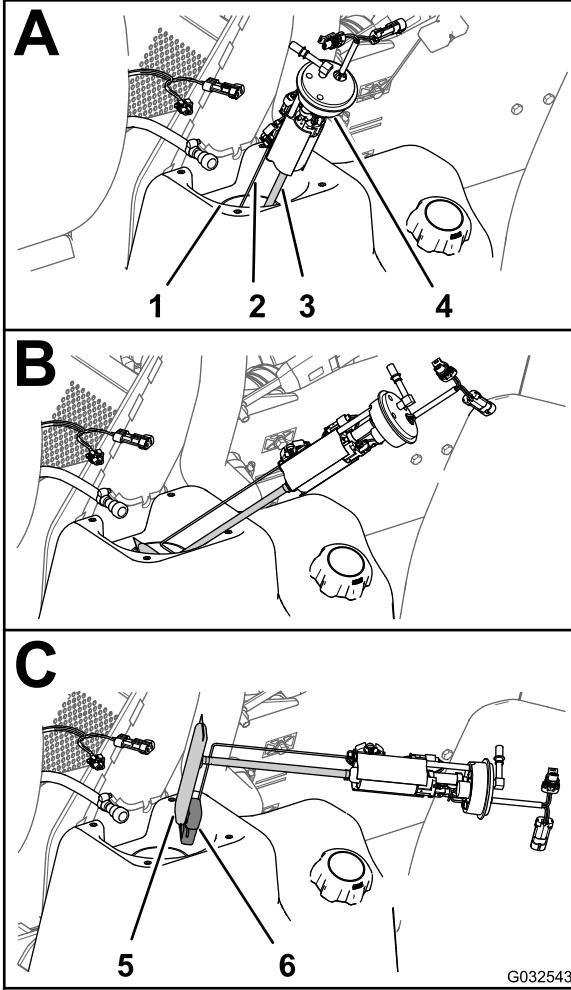
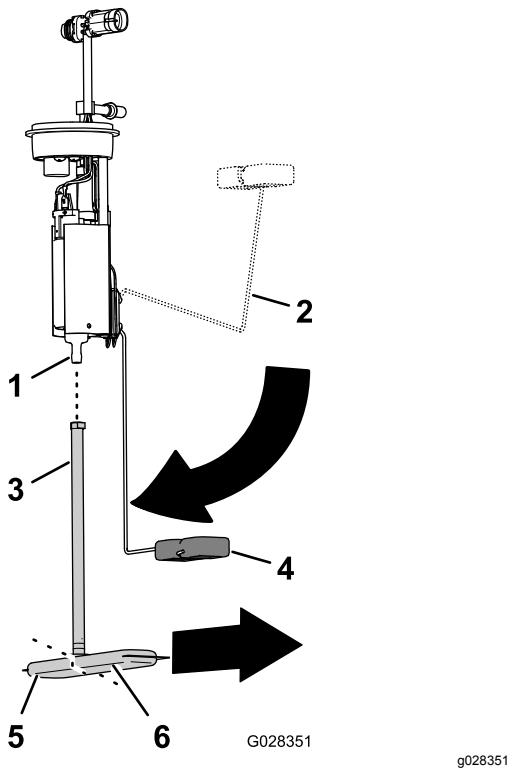

Figure 80
Figure 81
6. Carefully lift and rotate the fuel pump/sending unit out of the neck of the fuel tank (Figure 80).
1. Remove the pickup tube of the fuel filter from the fitting of the fuel pump (Figure 81).
2. Align the pickup tube of the new fuel filter with the fitting of the fuel pump (Figure 81).
3. Align the long leg of the fuel filter with float when the float arm is in the empty position (Figure 81).
4. Insert the fuel-pump fitting into the pickup tube until the fitting is fully seated (Figure 81).
1. Support the float arm and pickup tube together and slip the float and fuel filter into the opening in the fuel tank (Figure 80).
2. Seat the fuel pump/sending unit into the opening in the tank (Figure 80 and Figure 81).
3. Install the seal and nut over the fuel pump/sending and onto the neck of the fuel tank and tighten the nut hand tight (Figure 80).
4. Connect the coupling on the fuel hose to the fitting of the fuel pump (Figure 80).
5. Connect the 2-socket connector of the machine-wiring harness to the 2-pin connector of the fuel pump/sending unit; Connect the 2-pin connector of the machine-wiring harness to the 2-socket connector of the fuel pump/sending unit (Figure 80).